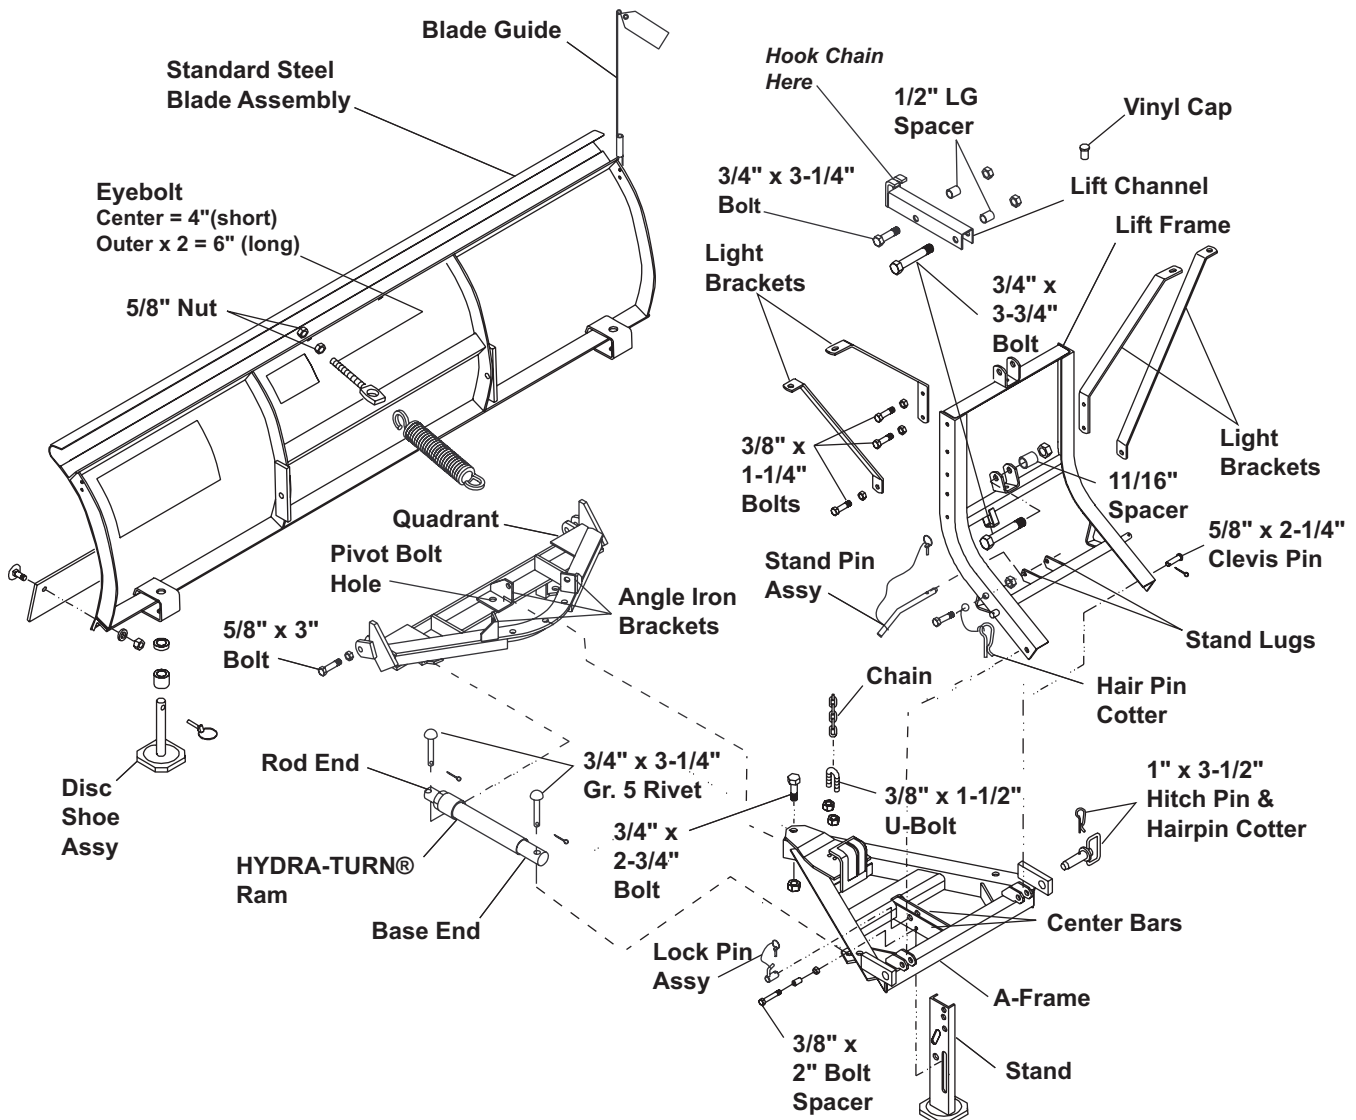

Figure 1
1. Position the A-Frame against the quadrant so the center of the straight frame of the quadrant is between the formed nose plate and angle of the A-Frame, and the curved frame of the quadrant is under the retainer bar. (Refer to Figure 1).